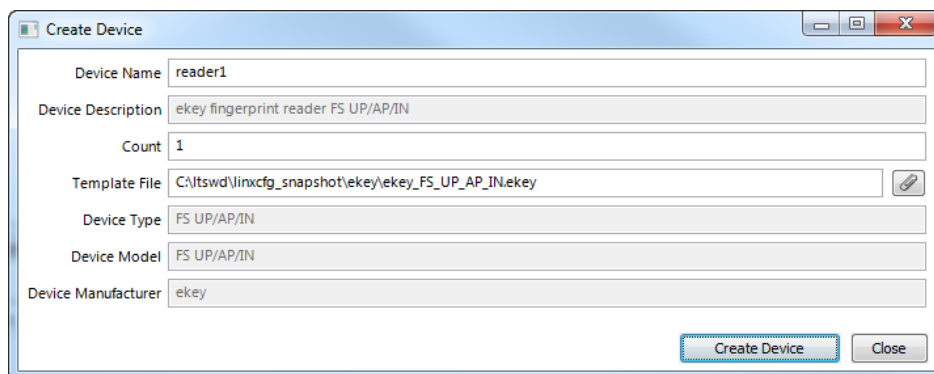

Figure 189: ekey fingerprint reader device creation dialog
3. In the **Create Device** dialog enter a **Device Name** and a **Count** of devices to be created as shown in Figure 189.